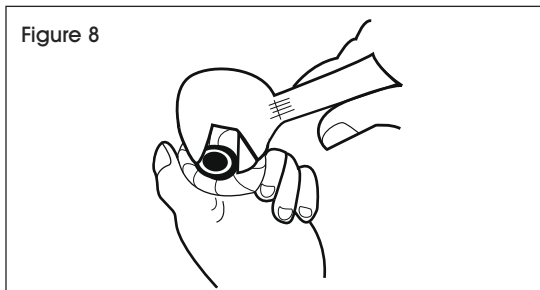

Figure 8
3. Unscrew spark plug. Set new spark plug gap to 3-5 mm. (See Figure 8)